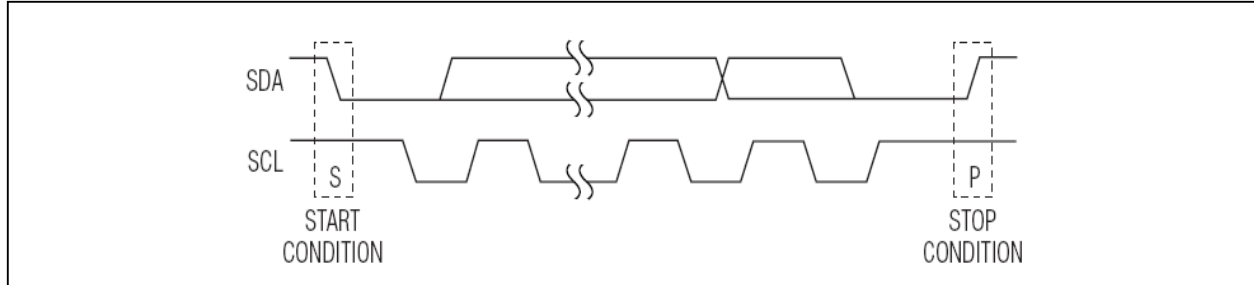

Figure 4 START and STOP Conditions
SDA operates as both an input and an open-drain output. A pull up resistor, typically 4.7k Ω , is required on SDA. SCL operates only as an input. A pull up resistor, typically 4.7k Ω , is required on SCL if there are multiple masters on the 2-wire interface, or if the master in a single-master system has an open-drain SCL output. Each transmission consists of a START condition sent by a master, followed by the IS311O7328's 7-bit slave addresses plus R/W bits, 1 or more data bytes, and finally a STOP condition (see Figure 4).
Both SCL and SDA remain high when the interface is not busy. A master signals the beginning of a transmission with a START (S) condition by transitioning SDA from high to low while SCL is high. When the master has finished communicating with the slave, the master issues a STOP (P) condition by transitioning SDA from low to high while SCL is high. The bus is then free for another transmission (see Figure 4).